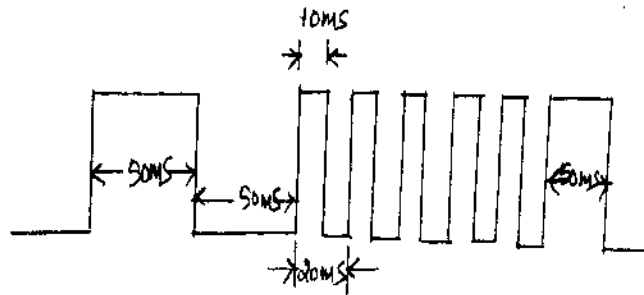

Fig.Q5(b)
- b. Using P1.5, timer – 1 in mode – 1, write a program to generate the following waveform as shown in Fig. Q5(b). Assume that system clock is 11.0592 MHz. Show the delay calculations. This waveform should be generated continuously. (10 Marks)